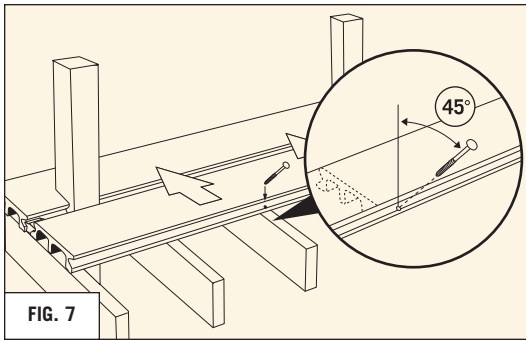

FIG. 7
- Attach or toe screw the deck board to the lumber substructure with a single #8 x 2" deck screw in the approximate middle of the board. Pre-drill into the deck board's lower lip at a 45° angle prior to installing screw. (REFER TO FIG. 7)